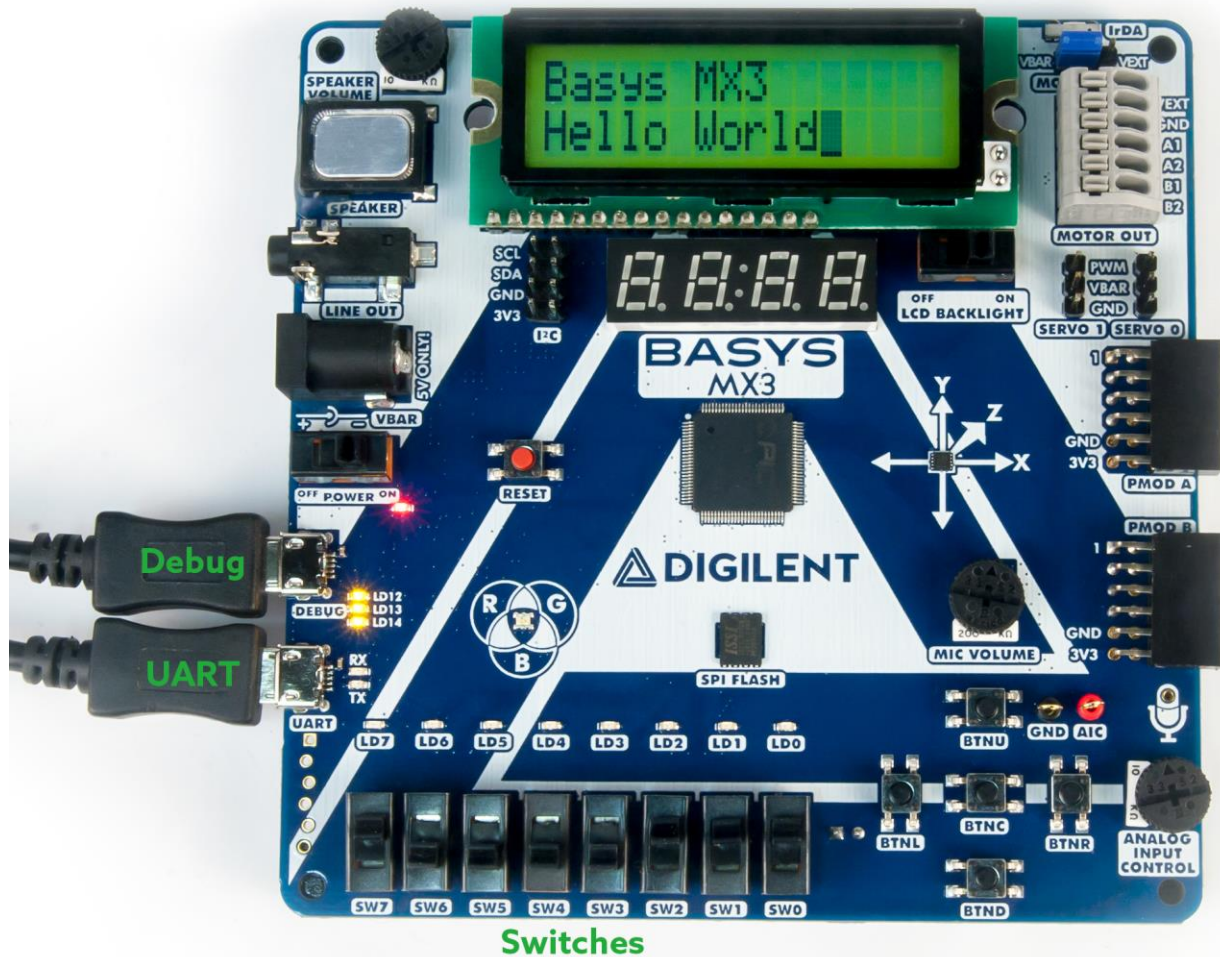

Figure A.2. UART USB connector on the Basys MX3.
- b. A text string containing between 17 and 32 characters displays on both the first and second LCD lines as shown in Fig. A.2.